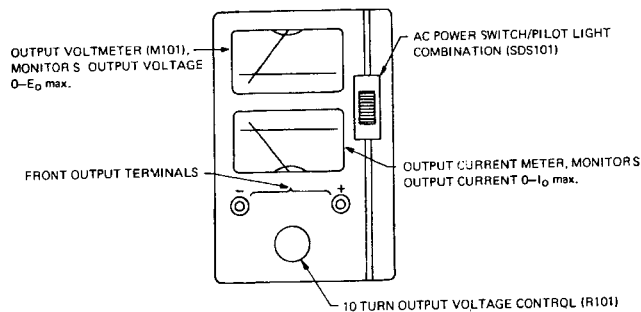

FIG. 2-1 FRONT PANEL TERMINATIONS, PCX—MAT
- FRONT PANEL: Refer to FIG. 2-1 (PCX—MAT only).